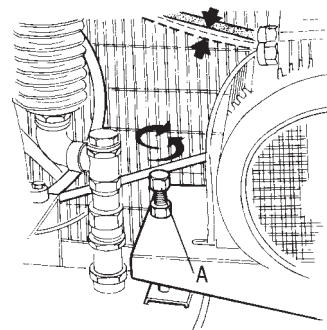

fig. 12
The tension of the V-belts is adjusted by the supplier. When replacing them it is necessary to make sure that the driving plates are correctly positioned and adjust the tension by manipulating the threaded pin (A), which rises the motor basis and enables to adjust the belt tension (*fig. 12*).